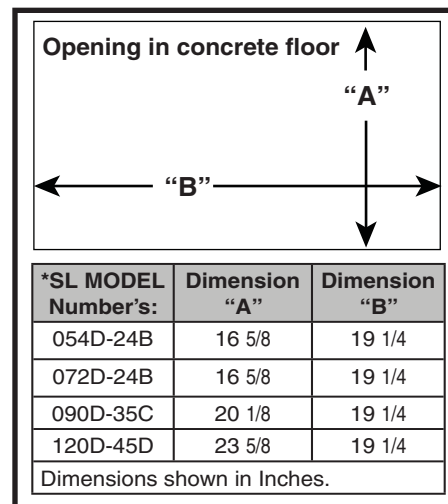

Figure 10. Cutout Dimensions
1. Create an opening in the floor according to the dimensions in Figure 10.